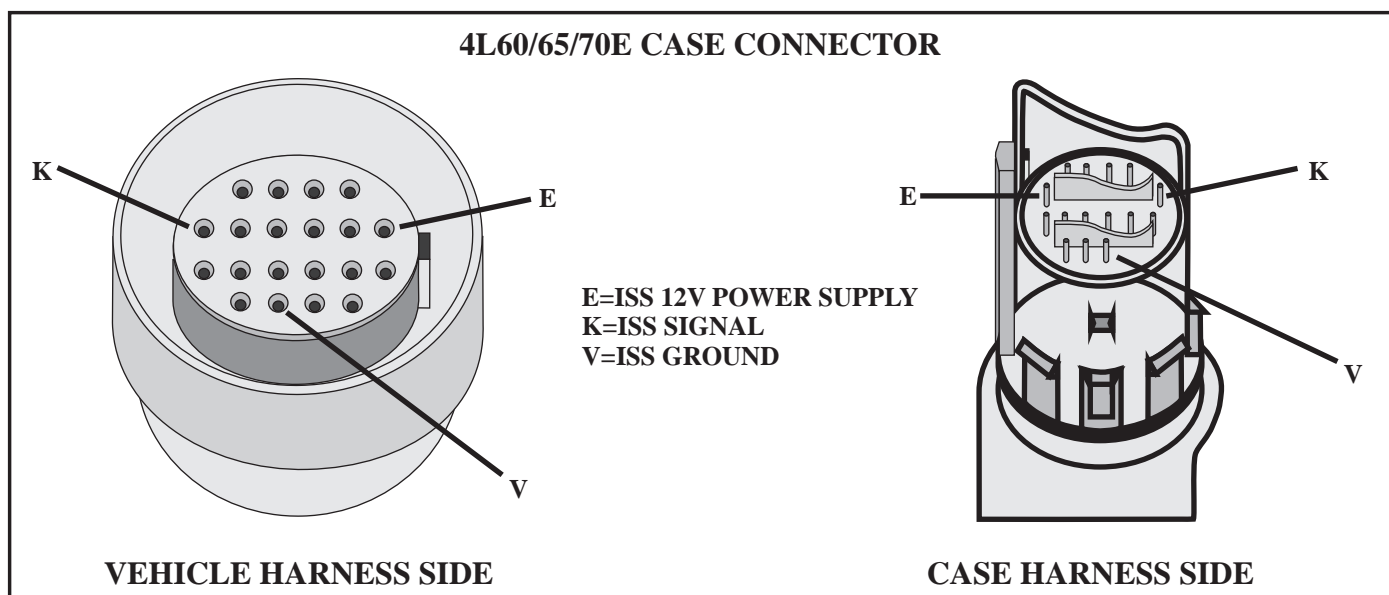

Figure 47
- The case connector terminal id for the AT ISS is shown in Figure 47.